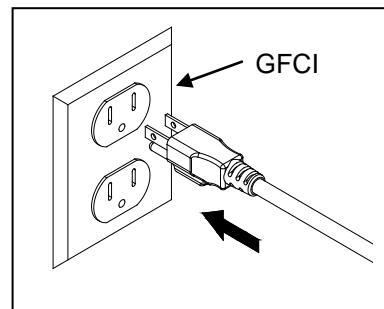

Fig. 4
- Place the pump into the water and connect to a proper power source. Fig. 4